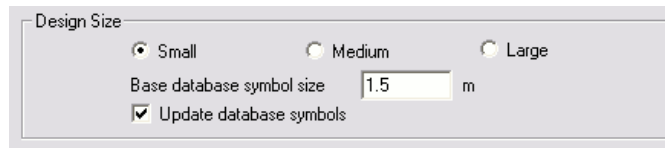

Figure 4-37
4. Select the Misc tab and click the "Medium Design Size". Change the "Base Database Symbol Size" to **10ft (3m)** as shown in Figure 4-37. This determines the size of the symbols according to the size of the design. When you are finished click [OK].